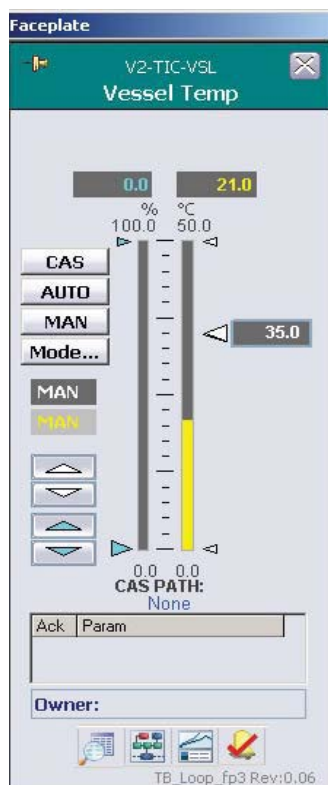

Figure 4.20. Vessel Temperature faceplate.
1. On the Main screen, click **Vessel Temperature** at the top of the screen to open the faceplate (Figure 4.20).